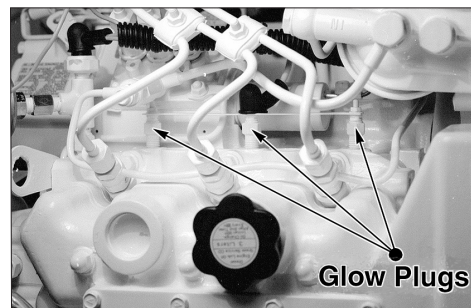

Figure 17: Timing Mark
- f. After removing the injectors, discard the copper sealing washers from the injector hole in the head (Figure 17). Cover holes to prevent dirt and debris from entering the cylinders.
- a. Install a new copper sealing washer in each injector hole (Figure 17).